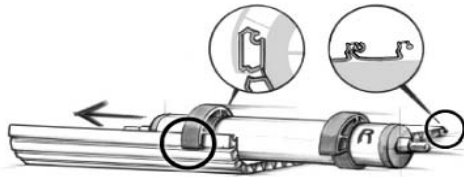

Fig. 5
2. Slide the spring-loaded roller with the connector rings over the top tambour profile. Tambour door profile orientation should be as shown in Fig. 5.